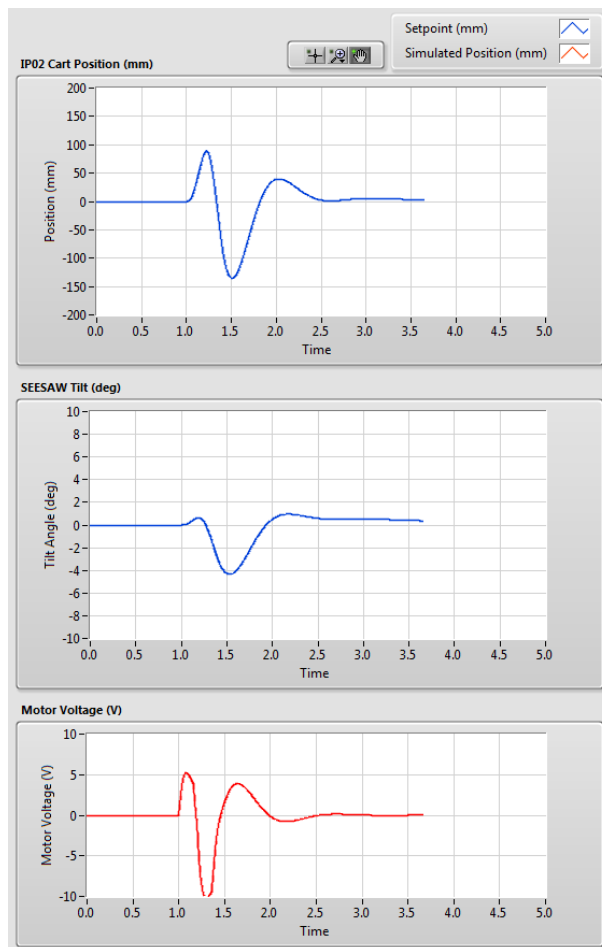

Figure 3.2: Simulated closed-loop response.
- Run the VI. The scopes should be displaying responses similar to Figure 3.2.
As shown by the response in Figure 3.2, the seesaw maintains its balanced horizontal position despite the applied 5 degree disturbance. Further analysis can be performed using the *Graph Palette*.